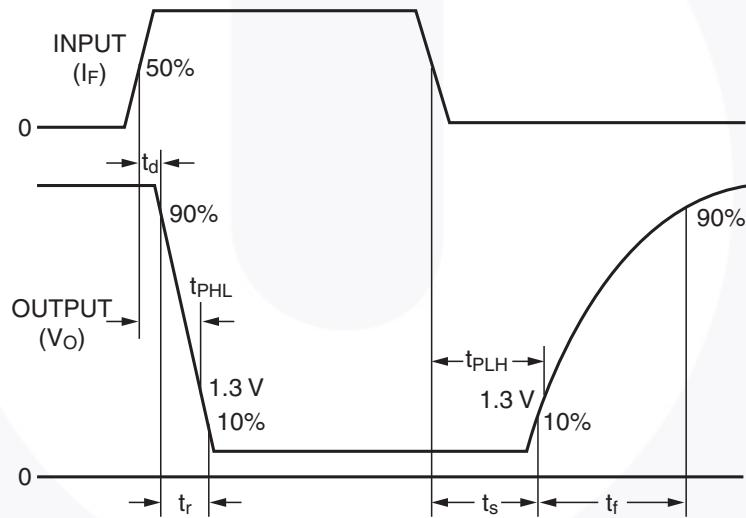

Figure 16. Switching Time Waveforms
- Referring to Figure 16 the T_{PHL} propagation delay is measured from the 50% point of the rising edge of the data input pulse to the 1.3 V point on the falling edge of the output pulse.
- Referring to Figure 16 the T_{PLH} propagation delay is measured from the 50% point of the falling edge of data input pulse to the 1.3 V point on the rising edge of the output pulse.